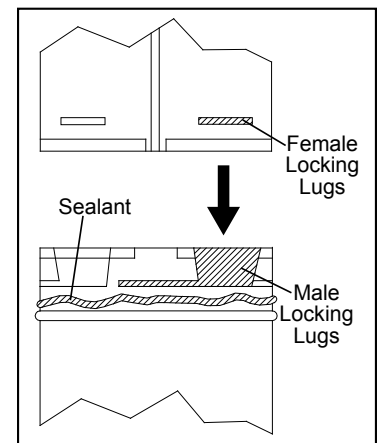

Figure 26: Twist-Lock Connection.
Place a bead of Mil-Pac on the outer edge of the inner exhaust pipe (non-flared end). Place a bead of high temperature silicone on the male edge of the outer pipe. Push the pipe sections completely together, then twist-lock one section clockwise approximately 1/4 turn, until the two (2) sections are fully locked. The female locking lugs will not be visible from the outside, on black pipe. They may be located by examining the inside of the female ends as shown in Figure 26.